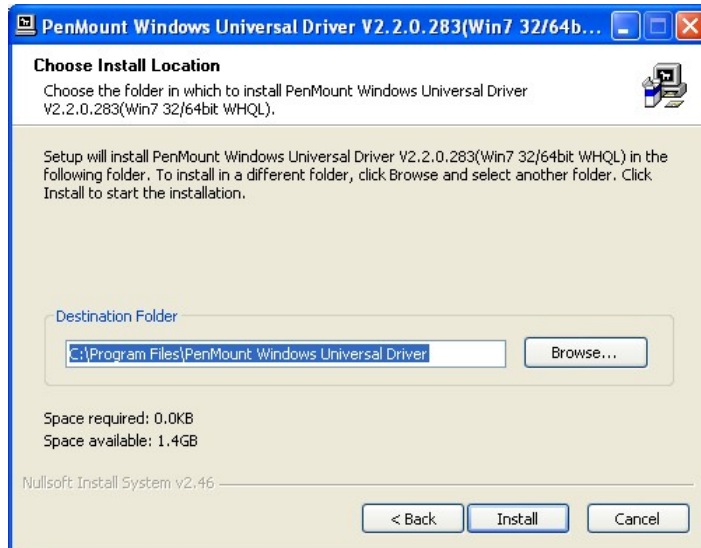

Figure 4-4: Initiate Install
Step 8: The installation destination screen appears. See **Figure 4-4**. Click **Install**.